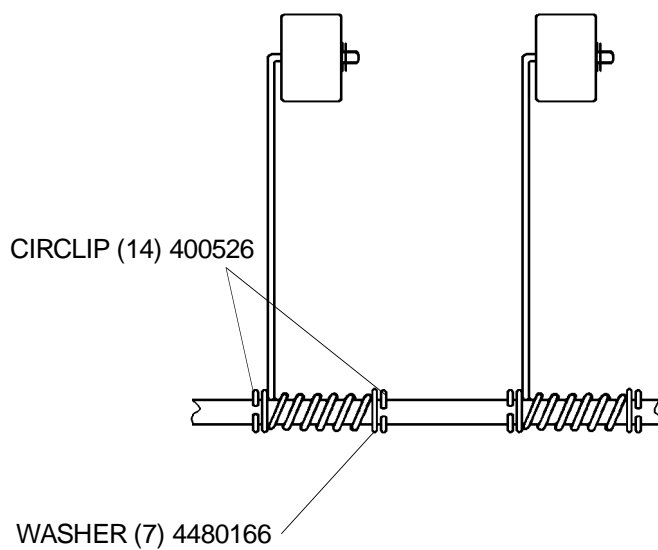

figure 15
25. Remove and discard part indicated in figure 15. Install new parts.